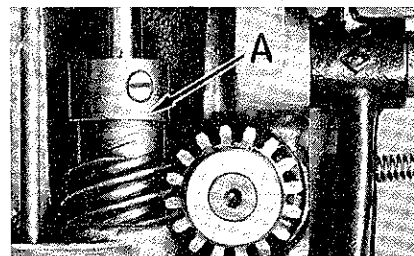
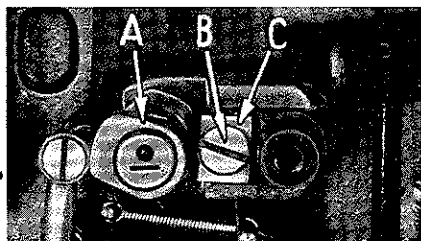

Fig. 2
Fig. 3
Before timing the needle with lower plunger it is necessary to establish correct left to right movement of the needle. To set this properly turn handwheel away from operator until needle has completed its forward stroke on the right hand side. Loosen set screws in gear (A, Fig. 2) and rotate needle vibrating cam (A, Fig. 3) until slot is in a horizontal position below center. Retighten set screws in gear.
After this adjustment has been made, rotate handwheel until needle eye is at the center of projection of the needle guide on the left hand side. At this point needle should make slight contact with projection. In order to position needle accordingly loosen screw (B, Fig. 3) and tap block (C) left or right. Retighten screw.